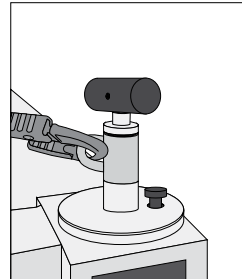

Figure 4
- You can now attach your connector to the Twist anchor. (Figure 4)